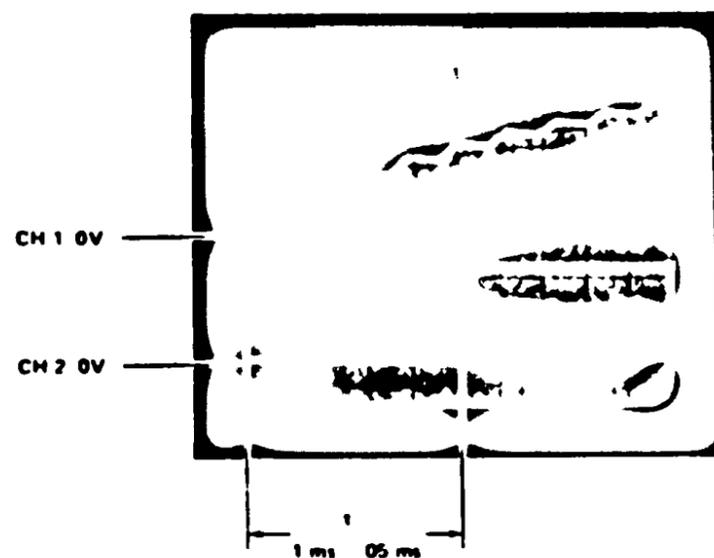

Figure 5.11 Threshold Waveform
5. Use the appropriate Read Continuous Data Blocks diagnostic listed in Paragraph 5.4.2 or 5.4.4 to perform repetitive read data block operations on drive A. Set switches for inhibit error printout, do not stop on error, and loop on test sequence. Adjust the oscilloscope controls to obtain the waveforms indicated in Figure 5.11. Trigger from Channel 1 as close to the base line (0V) as possible.